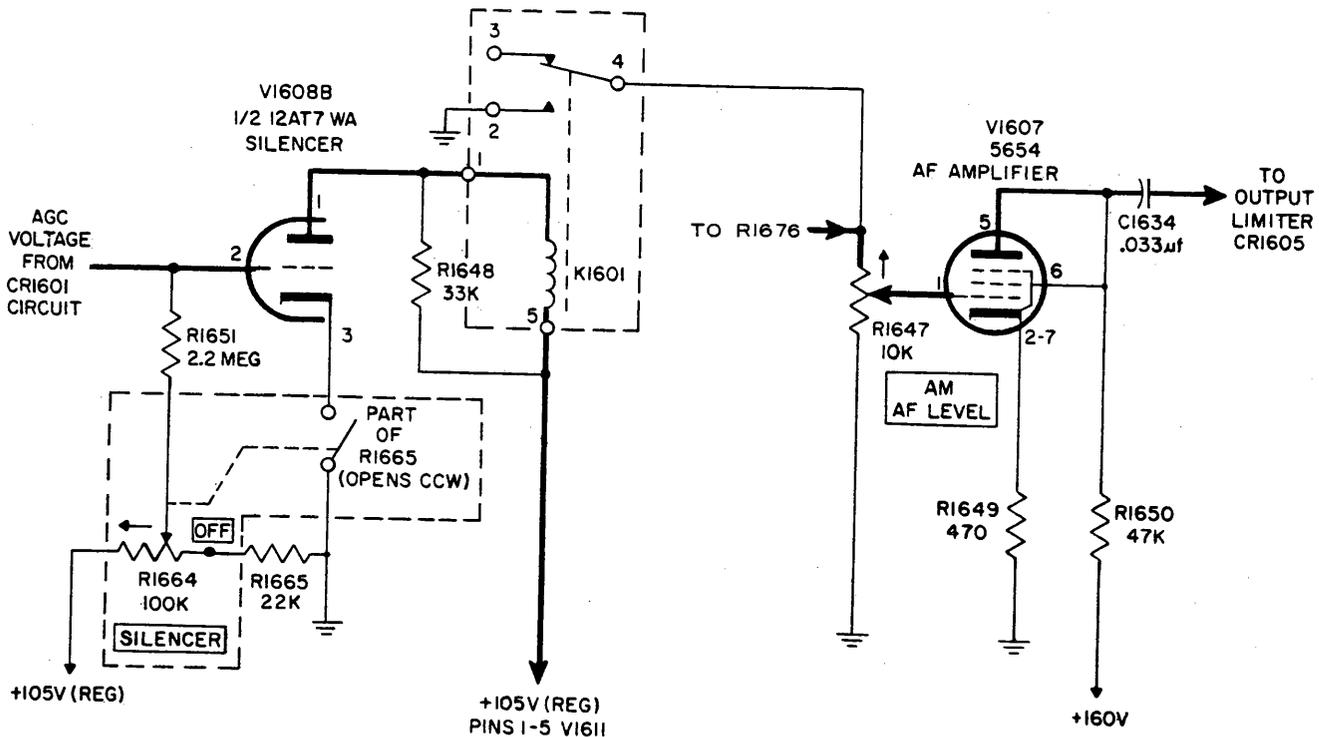

Figure 4-22. Silencer V1608B and AF Amplifier V1607, Simplified Schematic Diagram
e. SILENCER CIRCUIT. (See figure 4-22.)—The silencer, or squelch, circuit, used principally for voice
AF amplifier V1607 (figure 4-22) receives from R1676 (figure 6-18) an input developed across AM AF LEVEL control R1647, with the amplitude controlled by potentiometer R1647. The amplifier uses a pentode tube connected for triode operation. Its output is developed across plate load resistor R1650 and is coupled to the output-limiter circuit through capacitor C1634.